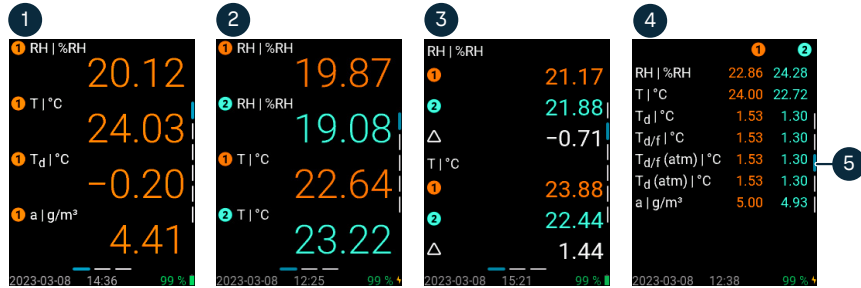

Figure 6 Types of measurement views in Indigo80
- 1 **Add view:** two types of templates are available for new views (for examples of different types of measurement views, see Figure 6 \(page 21\)):